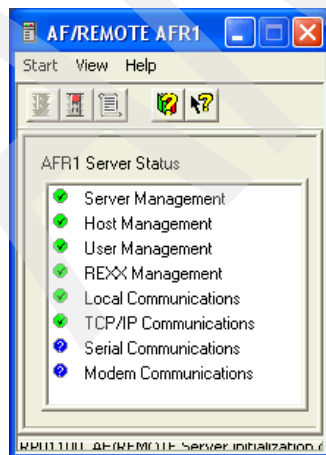

Figure F-1 AF/REMOTE Server panel
You can run only one copy of the AF/REMOTE server on a given workstation. If a second server startup is attempted, it is quickly terminated and the window focus is transferred to the already running AF/REMOTE Server control panel (see Figure F-1 on page 134).
2. The AF/REMOTE AFR1 server panel is displayed (Figure F-1).